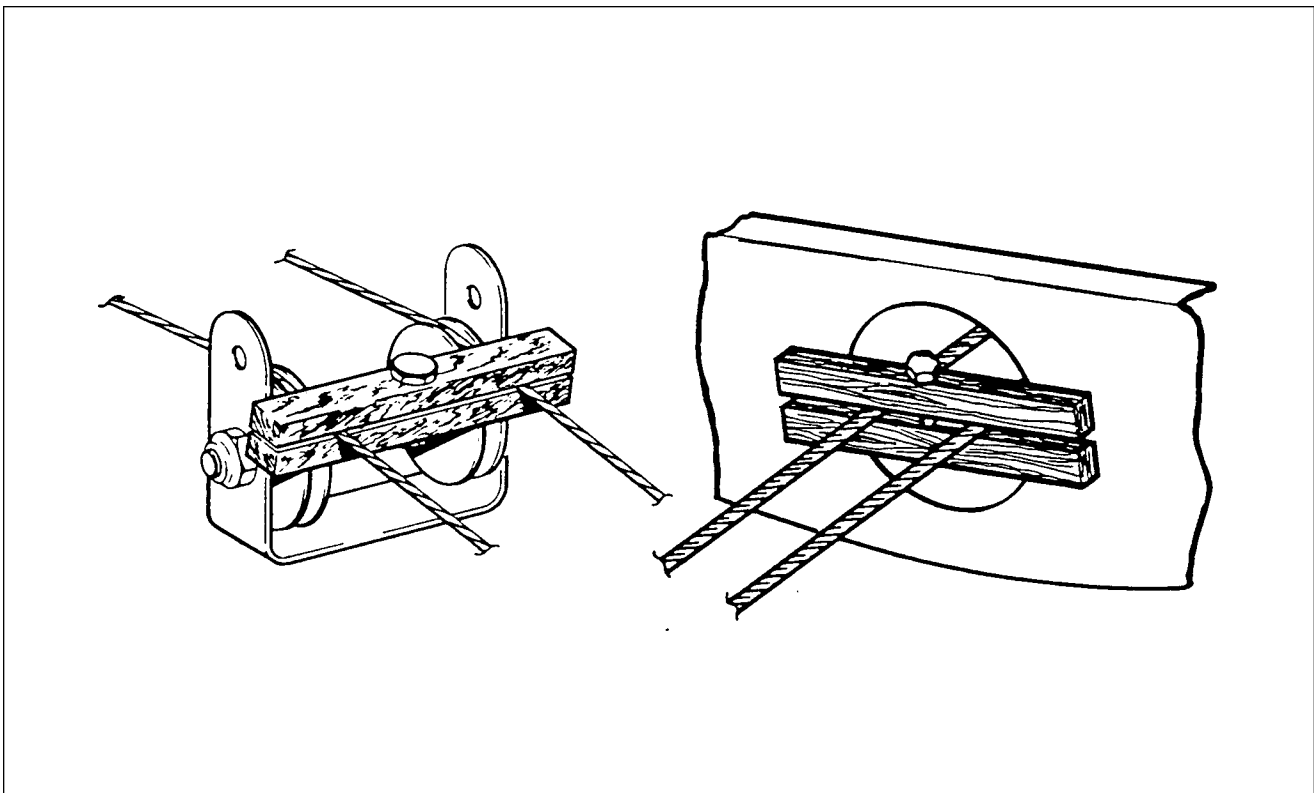

Figure 27-17. Methods of Securing Trim Cables
2. If aft trim cable is not to be removed, block cables at pulleys in upper aft section of fuselage to prevent them from unwrapping from trim drum. (Refer to figure 27-17.)
2. Block trim cables at first set of pulleys forward of cable turnbuckles by a method shown in figure 27-17.